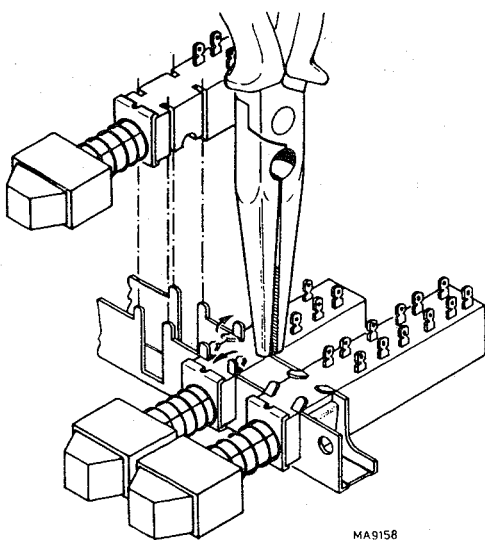

Fig. 9.6. Replacing a switch-segment of a push-button set
**To remove** a pushbutton switch, the hexagon screws that secure it to the front panel must be removed. To replace one switch-section of a push-button set, refer to fig. 9.6.
- Straighten the 4 retaining lugs of the relevant switch as shown in fig. 9.6.